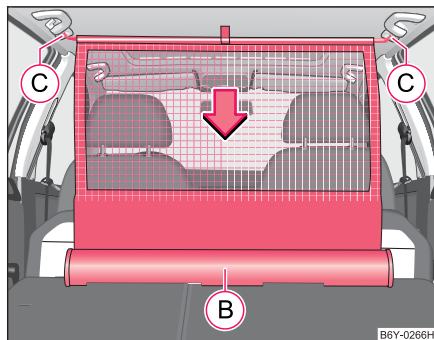

Fig. 60 Rolling up net partition
- Pull the cross rod back slightly, first on the one side then on the other side and take the cross rod out of the mount (C) ⇒ fig. 60.
- **Hold** the cross rod in such a way that the net partition can roll up slowly and without damage into housing (B).